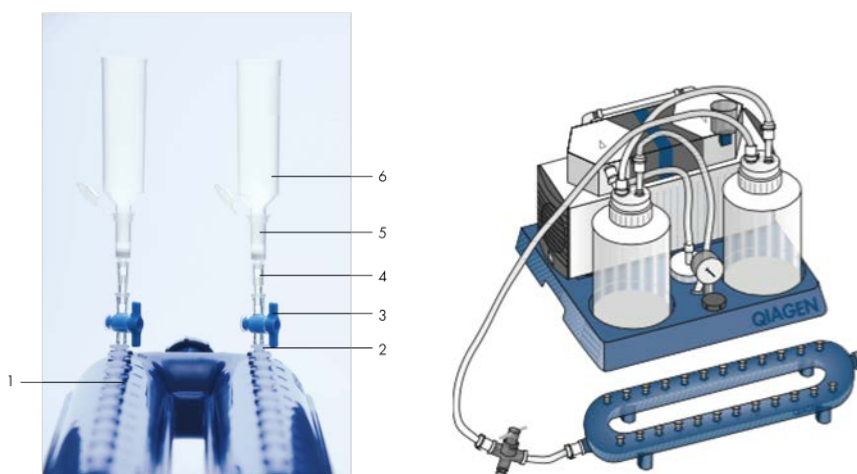

Figure 2: The vacuum manifold.
- 18) Insert Luer plugs (Figure 2, 2) into Leur ports that will not be used for filtration. These plugs are reusable, do not throw out.
- 19) Insert VacValves (Figure 2, 3) into the vacuum manifold slots which will be used for filtration. These valves are reusable, do not throw out.
- i. VacConnectors (Figure 2, 4)
- ii. QIAamp Mini Column (Figure 2, 5)
- iii. 20mL tube extender (Figure 2, 6)